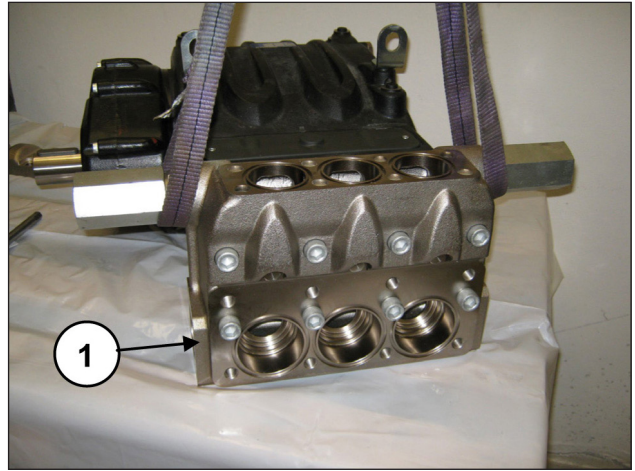
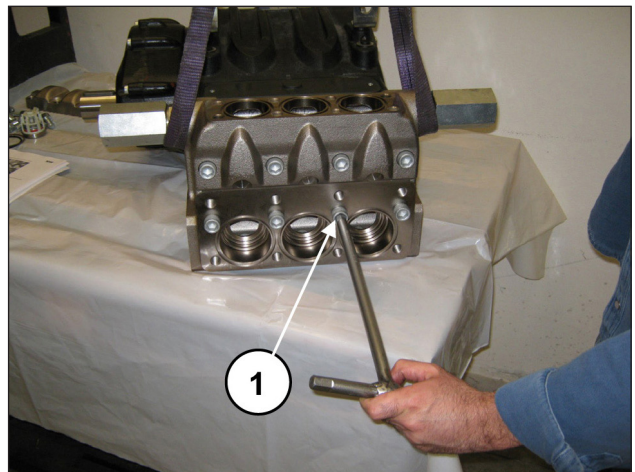

Fig. 162
Fig. 163
Assemble the pump casing head (pos. ①, Fig. 162) taking care not to hit the pistons and screw in the 8 M16x150 screws (pos. ①, Fig. 163).